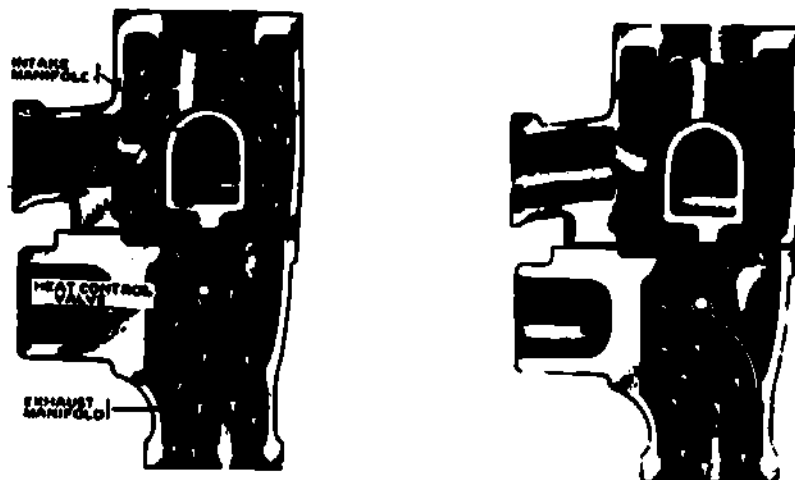

Fig 5-7. Automatic control of hot spot.
b. Automatic control of hot spot (fig 5-7). For automatic control, a thermostatic spring is mounted on the end of the heat control valve shaft in the exhaust manifold. When the engine is cold, the spring is contracted and holds the heat control valve so that exhaust gases are directed through the manifold hot spot. As the engine heats up, so does the thermostatic spring. The heat expands the spring, which turns the valve. Exhaust gases then travel directly to the exhaust pipe, bypassing the intake manifold hot spot.